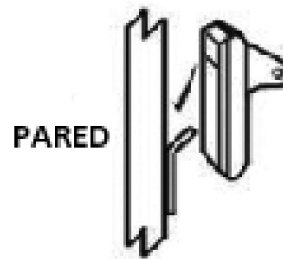

Fig 2
3. Mount the wall bracket (2) on the wall with three screws (Fig1-1) provided (see Fig 2).